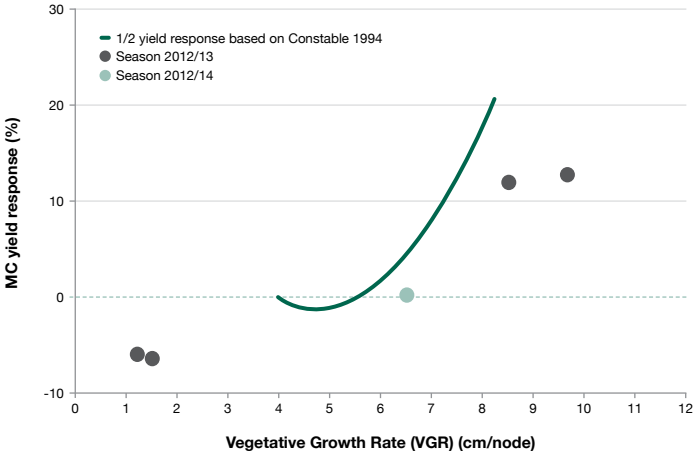

Figure 7.5: Yield response to Mepiquat chloride from non Bt cotton with recent measures in Bt cotton crops (Williams, CSIRO, 2014).
- **Figure 7.5:** Yield response to Mepiquat chloride from non Bt cotton with recent measures in Bt cotton crops (Williams, CSIRO, 2014).